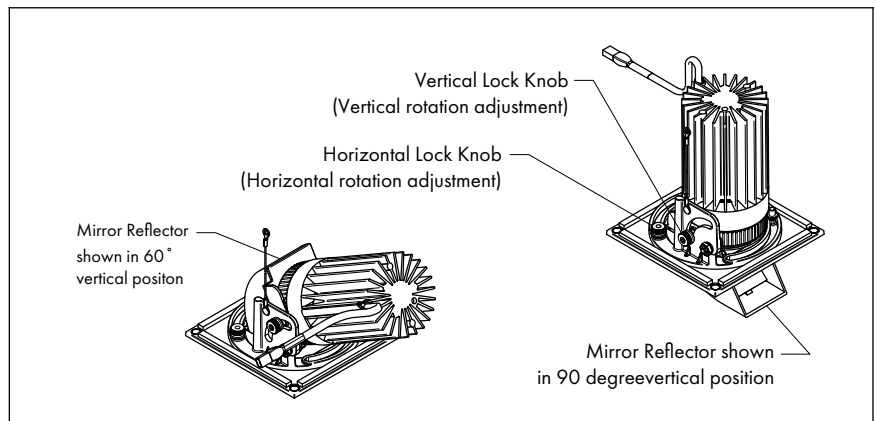

FIG. 12.3 Lamp Module Adjustment
Step 2 Adjust vertical to 90 deg position as shown in **FIG 12.3**. Note: angle adjustment is limited on ceilings over 5/8" thick & when Mirror Reflector is aligned facing narrow sides of Housing.